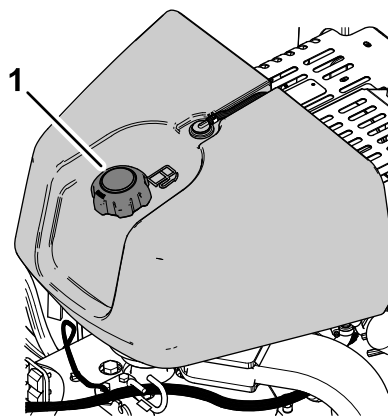

Figure 29
2. Clean around the fuel-tank cap and remove it (Figure 29).